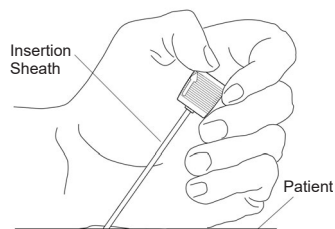

Fig. 5
- b) if necessary, rotate the insertion sheath so that the reference indicator on the insertion sheath cap is facing up (Figure 5).